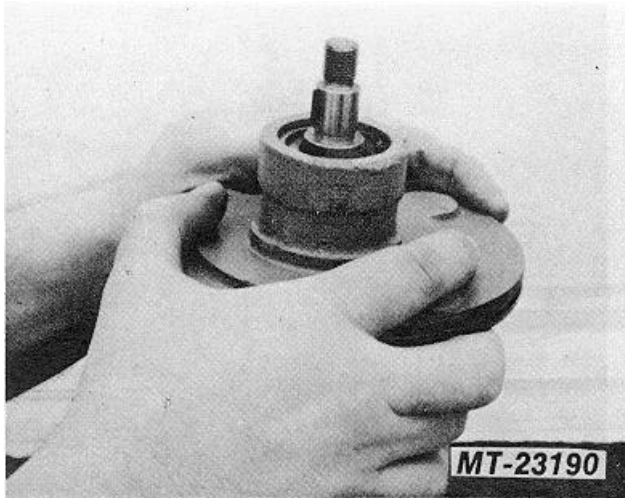

Fig. 11 Separate Rotating Group From Housing
9. Release pump housing from vise. Invert housing and bump bench sharply (Fig. 11). (Use clean shop towel to catch parts.) The impact should free the entire rotating group. If it does not, bump again.